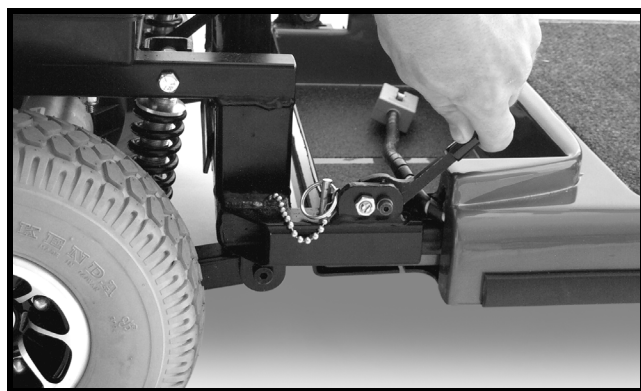

Figure 23. Locking Cam Levers (Unlocked Position)
8. Push the locking cam levers forward to the unlocked position and remove the ball detent pins. See figures 23 and 24.